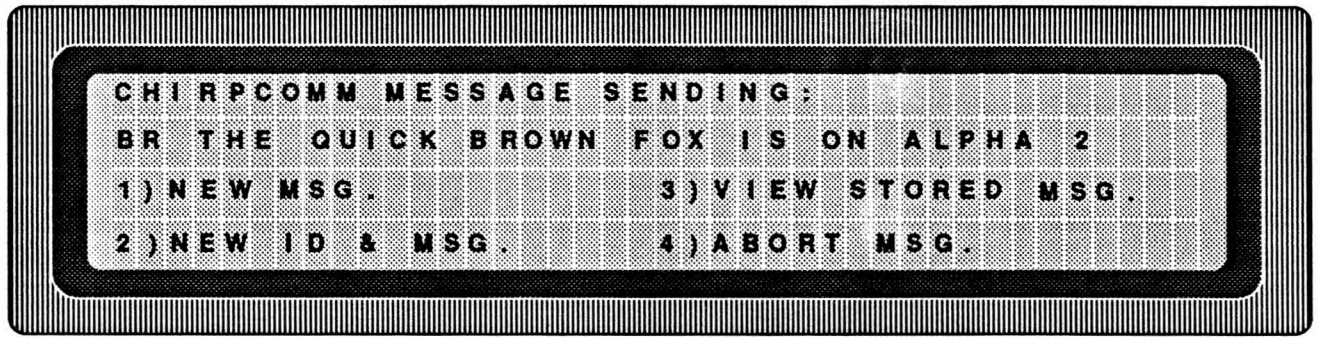
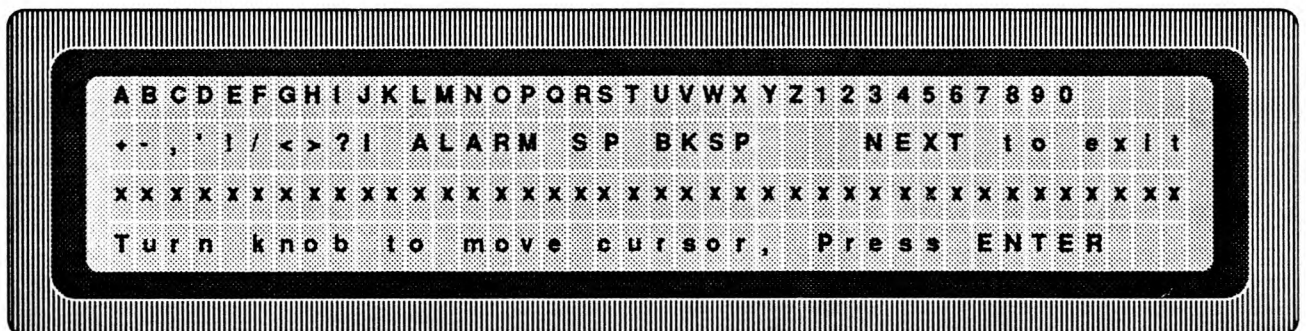
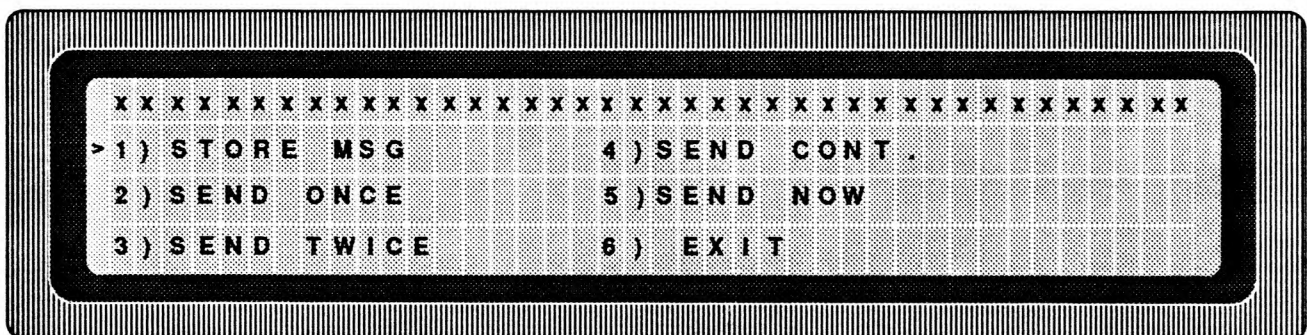
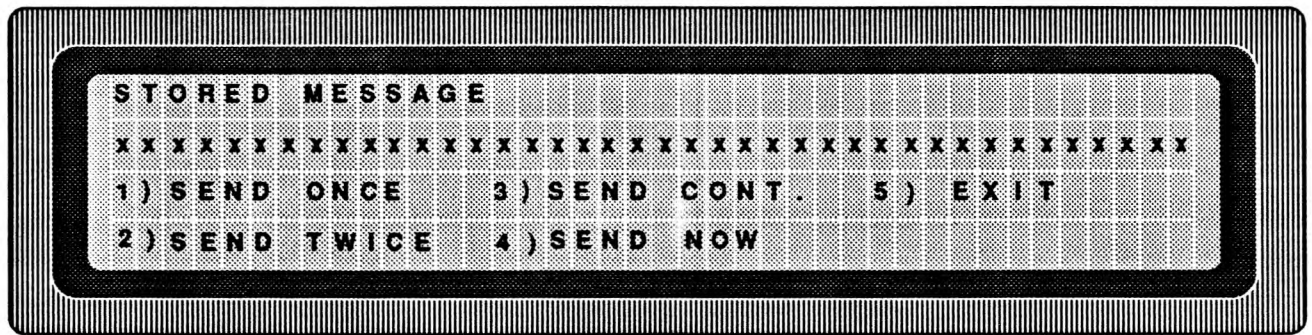

Figure 3-10. Chirpcomm Display I
Figure 3-11. Chirpcomm Display II
Figure 3-12. Chirpcomm Display III
Figure 3-13. Chirpcomm Display IV
3-5.3 CURRENT MESSAGE. Figure 3-10 appears when the MODE switch is first placed in CHIRPCOMM. It shows the Chirpcomm message that is currently being sent and provides a menu for further activities. The display alternates between one showing the message that is currently being sent, and the one that is waiting to be sent.
3-5.4 CHIRPCOMM MESSAGE ENTRY. When either 1 or 2 is selected in Figure 3-10, Figure 3-11 (Chirpcomm Message Entry) is displayed. If the ID does not need to be changed, press “1”, NEW MSG. If the ID must be changed, press “2”, NEW ID & MSG. To type the message, turn the tuning knob until the cursor is on the desired character, then press ENTER. Select SP to enter spaces in the message, which are indicated by underlines. If an error is made, select BKSP to backspace and erase the previous character. (See paragraph 3-5.6 for use of the ALARM character).
1. NEW MSG. Begin typing in the new message. The first two characters showing the ID will not change. As the entry of the message progresses, it will replace the xxxx... shown in Figure 3-11.
2. NEW ID & MSG. Enter the new ID in the first two character spaces. Then type the new message. As the entry progress, it replaces the xxx... shown in Figure 3-11.
3-5.5 CHIRPCOMM TRANSMISSION CHOICES. Figure 3-12 shows possible dispositions of the message after pressing 'NEXT' in Figure 3-11. This provides the operator with choices for transmission of the Chirpcomm Message. A ">" will appear to the left of the chosen selection(s) which will be executed when "6" is pressed and the display is exited. There are five choices:
- e. STORE MSG. The STORE MSG function allows a message to be prepared ahead of time and stored in non-volatile memory without being sent. The stored message can then be recalled at a later time by selecting VIEW STORED MSG (key 3) from Figure 3-10. Refer to paragraph 3-5.7 for additional information.
The stored message will appear as shown in Figure 3-13 after selecting "1" from Figure 3-12 or "3" from Figure 3-10. The xxx... represents the message in storage. The menu provides choices as the actions to be taken, as described in paragraphs 3-5.5a through 3-5.5d.
b. The Chirpcomm messages in the WAITING TO SEND and SENDING buffers are in volatile memory and will be lost if a primary power interruption occurs. However, if SEND CONT (key 4) or SEND NOW (key 5, Figure 3-12) was the last "send" function selected before a power interruption occurred, the TCS-5 will automatically recall the message stored in the STORE MSG buffer and transfer it to the WAITING TO SEND buffer for CONTInuous sending when primary power is restored. The automatic recall and sending of the STORE MSG buffer on power up does not occur if either the SEND ONCE (key 2) or SEND TWICE (key 3) function was selected.
c. If a Chirpcomm ID and/or message is to be sent continuously, even following a primary power interruption, the ID/message should first be placed in the STORE MSG buffer before selecting SEND CONTInuous or SEND NOW. If no Chirpcomm message transmission is desired following a power interruption of SEND CONTInuous operation, the STORED MSG buffer should be cleared by selecting either NEW MSG or NEW MSG & ID (Figure 3-10) and pressing 'NEXT' (Figure 3-11) without entering any message. If NEW MSG is selected when clearing the STORED MSG buffer, the 38-character message will be cleared and the 2-character ID will remain stored. To clear the entire 40-character field, select NEW MSG & ID. Be sure to clear the STORE MSG buffer of old messages when operational requirements change.